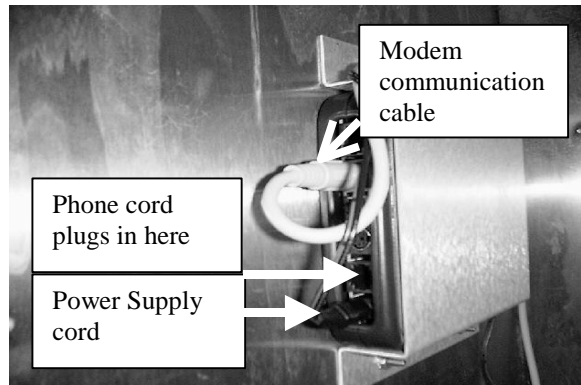

Figure 8. Modem Wiring
1. Locate the 3-pronged AC connector (See Figure 8). Disassemble the outer housing by loosening the housing assembly screw, located on the top of the AC connector.